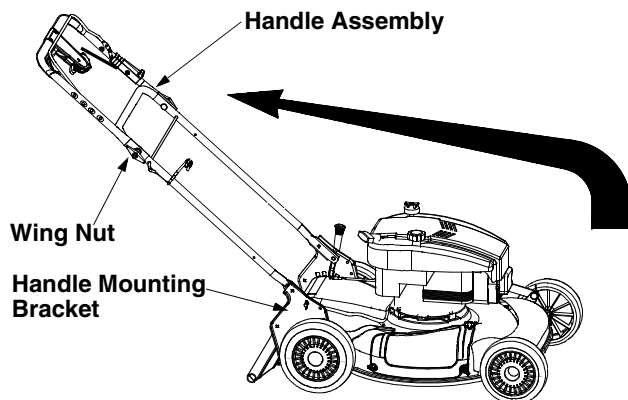

Figure 1
- Lift up and pull back on the upper handle to raise the handle into the operating position. Make certain the lower handle is seated securely into the handle mounting brackets. Tighten the wing nuts on each side of the handle (carriage bolts must be seated properly into the handles) See Figure 1.